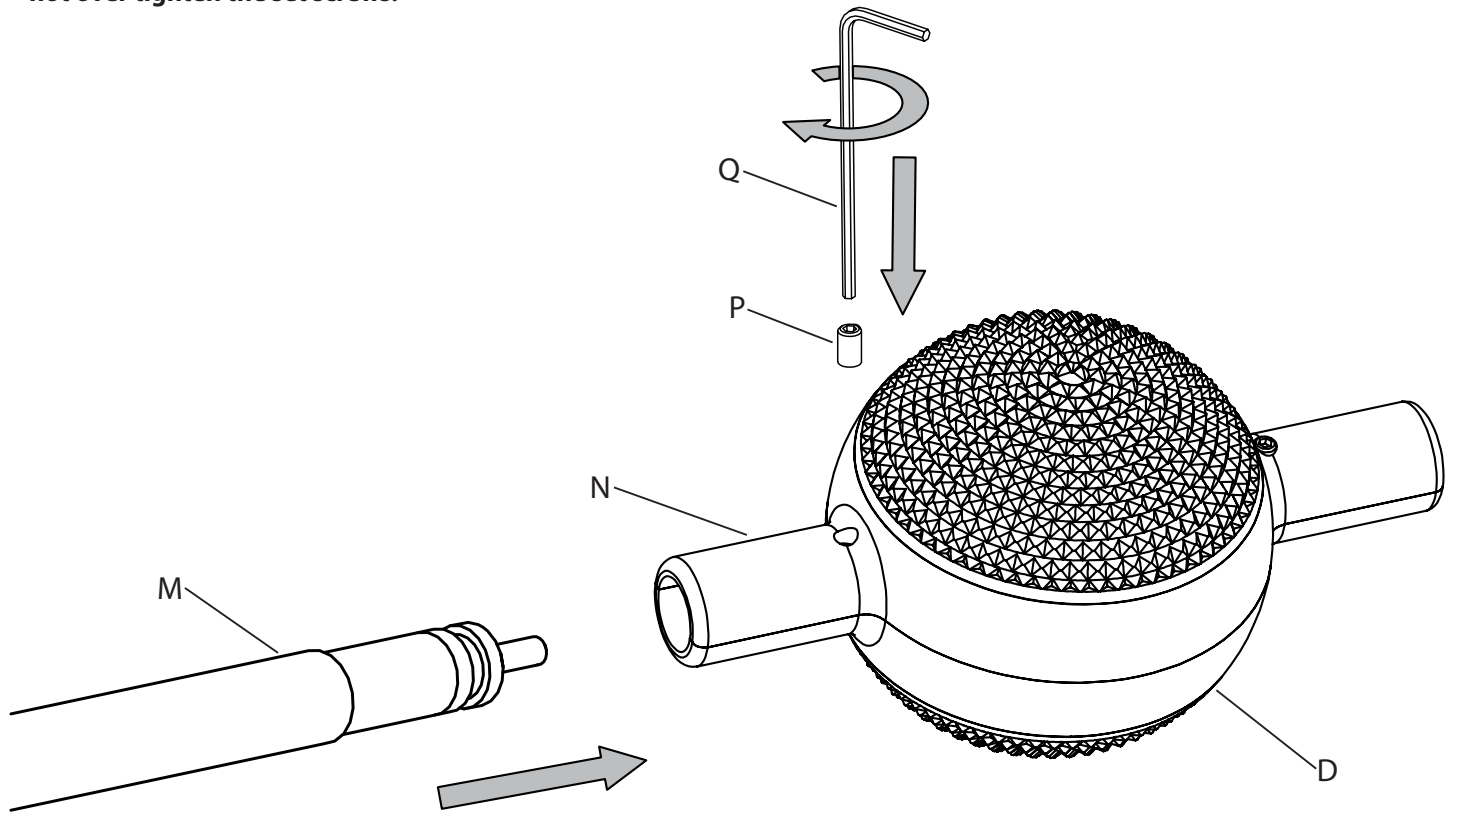

Fig. 2
4. Using the wiring diagram and instructions in appendix B, connect the Cord Power Feed Hangers (C) to the Lever Nuts (R). Reserve extra Cord and Lever Nut assembly in the Canopy (K). If shortening of the cords is necessary, refer to appendix A.
5. Attach mounting plate (H) to the outlet box (A), secure with outlet box screws (J). Use appropriate screws to secure the mounting plate into the ceiling.
- a. Connect the positive (red) low voltage wire from the Power Supply (B) to the red side (inner, jacketed conductor) of the Power Feed Hangers (C).
- b. Connect the negative (black) low voltage wire from the Power Supply (B) to the black side (outer, braided conductor) of the Power Feed Hangers (C).
7. Install the Canopy (K) to the Mounting Plate (H) and secure with Finials (L).
Attach a Linear Hub (D) to the end of each Cord Power Feed Hanger (M) by fully inserting into a Neck (N) on the Hub (Fig. 2). Install the M2 Set Screw (P), using the Small Hex Wrench (Q) provided, and tighten until it comes in contact with the plastic cap on the Hanger. Use the diagram (Fig. 3) and the following page for installation pattern. **CAUTION: Do not over tighten the set screws.**